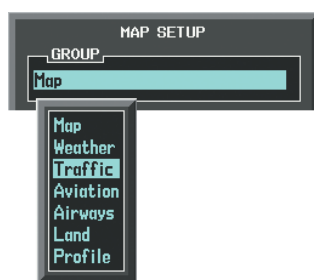

Figure 6-162 Navigation Map Page Setup Menu
- 4) Turn the small **FMS** Knob to select the 'Traffic' Group and press the **ENT** Key (Figure 6-162).